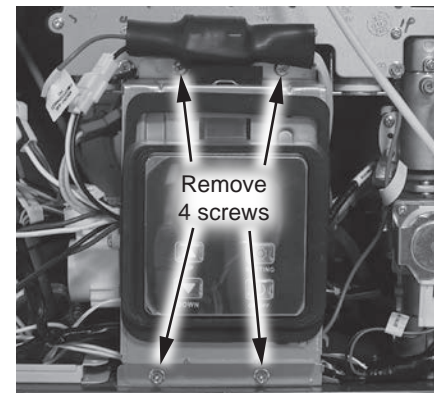

Figure 121 - Removing UIM and bracket screws
**7** Locate the User Interface Module (UIM) and bracket. Remove the four screws securing bracket to the water heater. Place screws aside in a safe place for reinstallation. See Figure 121.